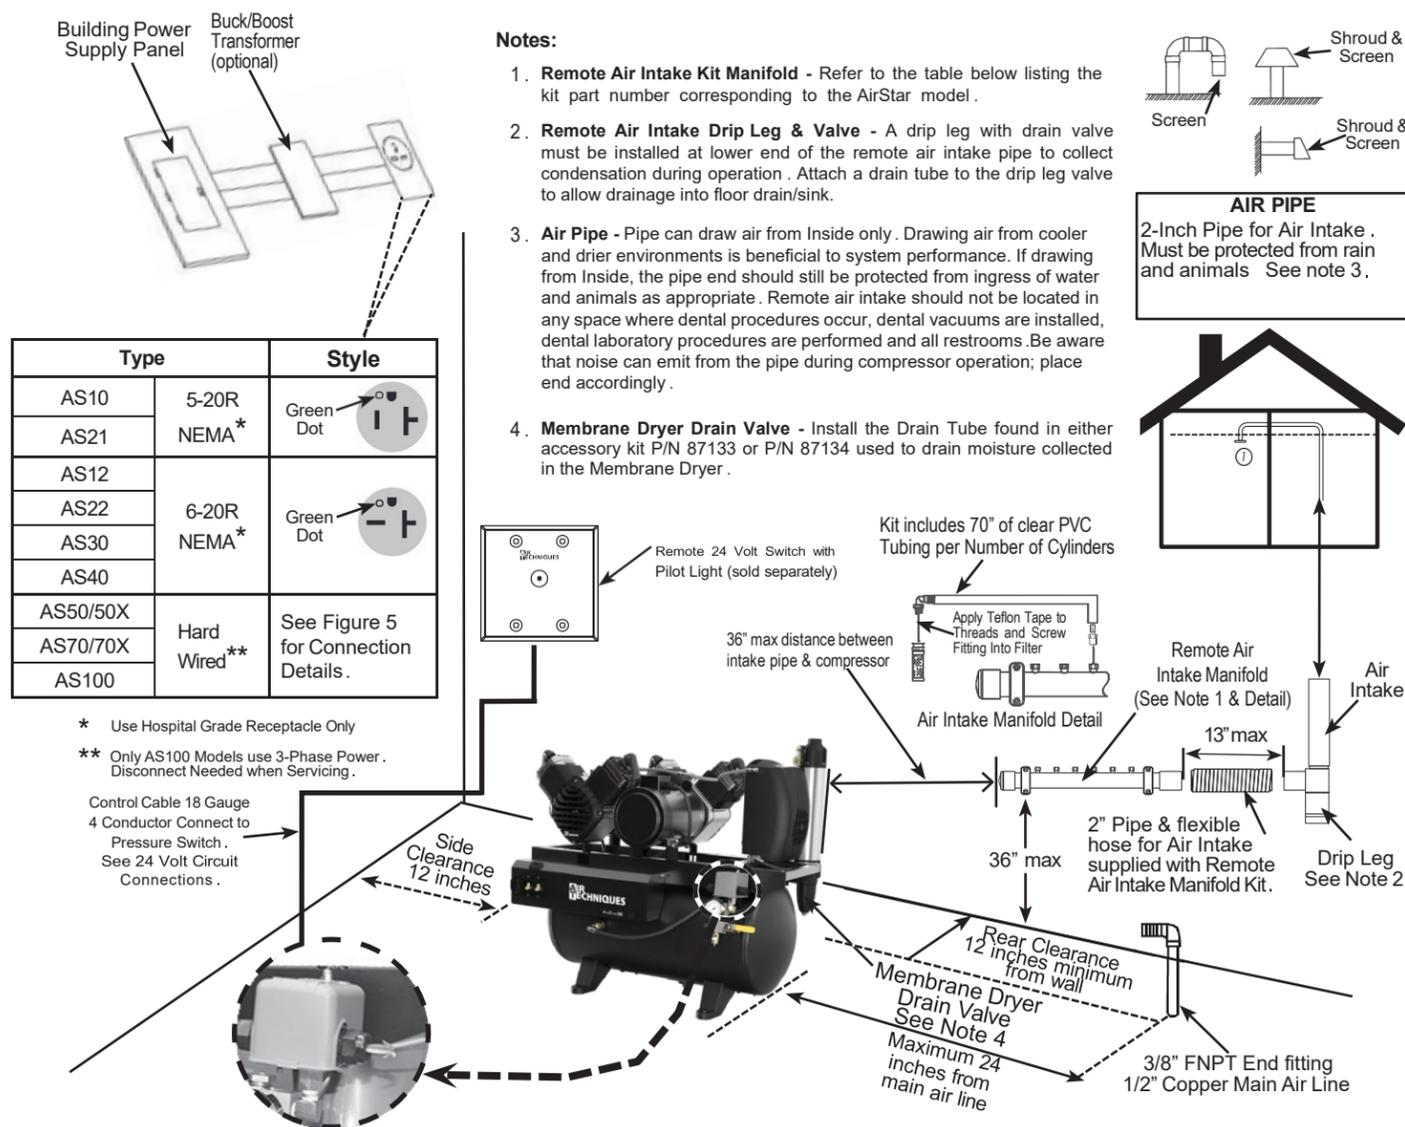

Figure 2. Overall Site Requirements
- **EQUIPMENT GROUNDING:** All **AIRSTARs** must be connected to a grounded metal, permanent wiring system, or an equipment grounding conductor must be run with the circuit conductors and connected to the equipment grounding lead in the **AIRSTAR's** flexible metal conduit power supply. Failure to do so can result in fire, electric shock, injury, or death . See Figure 2, Overall Site Requirements, page 10 .
- **ELECTRICAL POWER CONNECTION:** AS10, AS12, AS21, AS22, AS30 and AS40 systems are supplied with a connected line cord . AS50, AS50X, AS70, AS70X and AS100 systems are shipped with open electrical connections . Systems supplied with a line cord must be plugged into a hospital grade electrical outlet . See Figure 2 for receptacle requirements . Systems with open electrical connections are directly connected to the branch supply circuit as shown by Figure 5 . See Site Electrical Requirements, page 10, for required branch circuit size for each system .